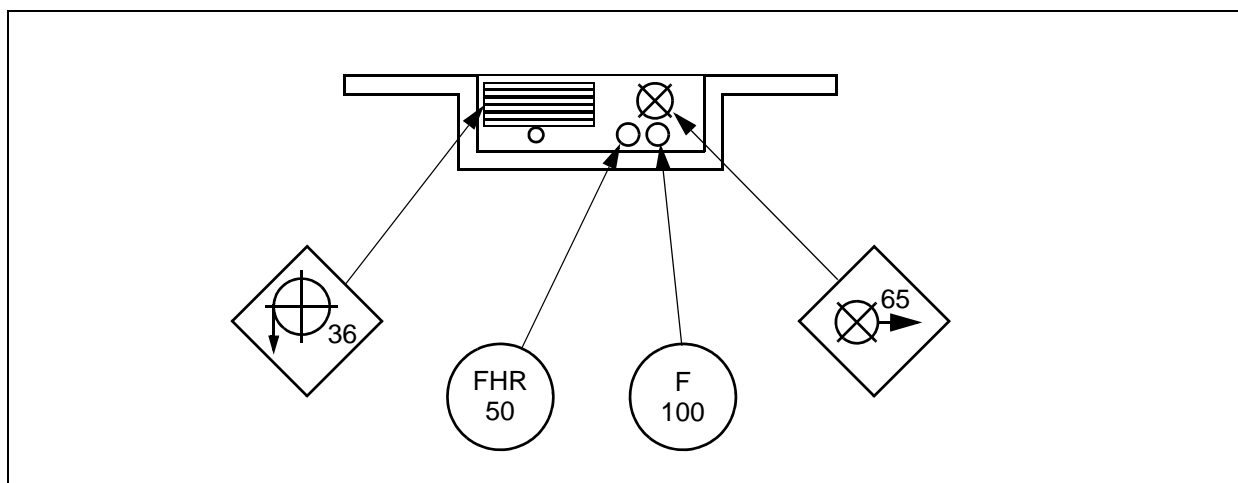

Figure 1 Identifying multiple equipment within a cupboard
- (c) use decals/symbols which individually identify the equipment contained within (refer to Figure 1, below).